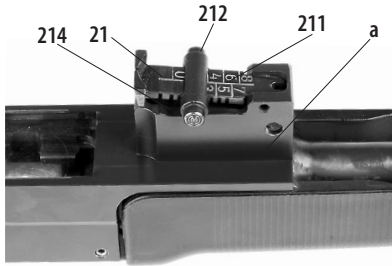

Fig. 9 *Rear sight assembly*
**Rear sight** (Fig. 9) enables the needed angles of the elevation to be set; the rear sight is fixed in the rear sight base. Rear sight 21 (Fig. 10) consists of rear sight slide 211, rear sight plunger 212 with spring 213 and rear sight feather 214.